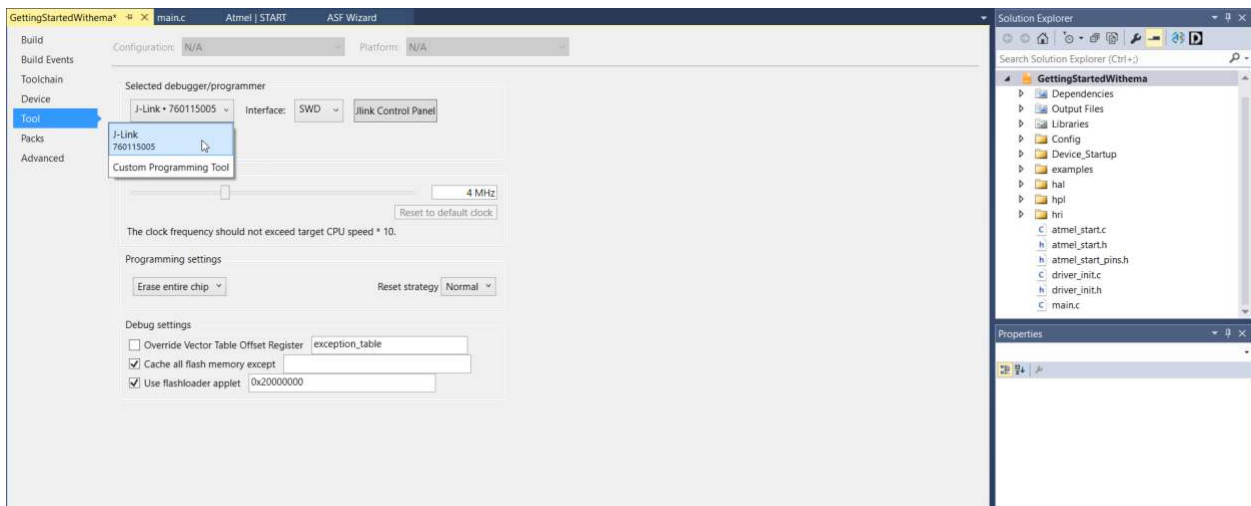

Figure 13
1. **Connect *ema:Play* JLink ICP/D to computer:** Locate the onboard JLink Programmer/Debugger port (J13) and connect it to the computer running *Atmel Studio 7*. Right click on the "GettingStartedWithema" project folder and select "Properties". The project properties window appears. On the left side, click on the "Tool" tab, then select the J-Link programmer/debugger from the list as shown in *Figure 13*.